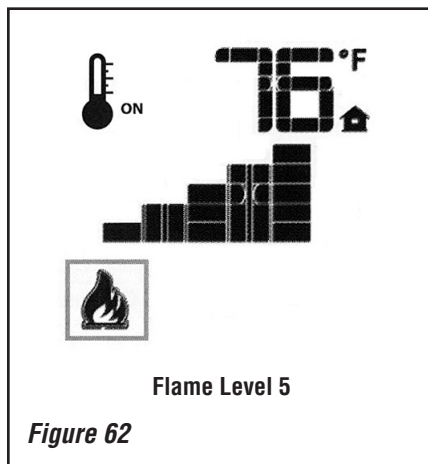

Figure 62
The system has six (6) flame levels. See **Figure 62 (next page)** for an example. With the system on, and the flame level at the maximum in the appliance, pressing the Down Arrow Key once will reduce the flame height by one step until the flame is turned off.